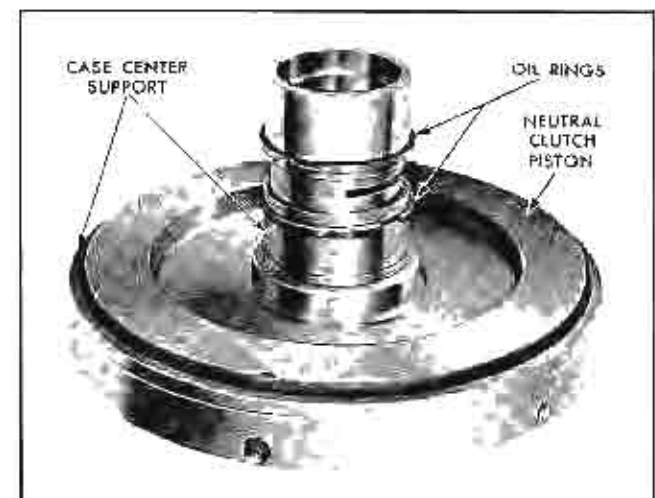

Fig. 98 Case Support Oil Rings in Place
30. Install two oil rings in ring grooves of case support hub (Fig. 98).